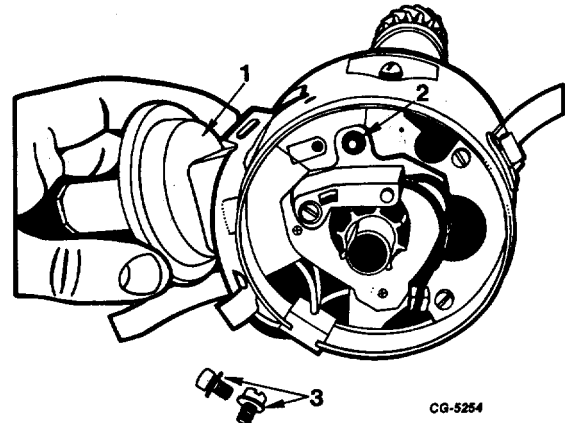

Fig. 13 Removing Vacuum Advance Diaphragm Assembly.
3. Remove vacuum advance diaphragm mounting screws and remove diaphragm assembly from distributor housing (Figure 13). Remove felt washer from diaphragm rod pin on sensor advance plate. (Figure 13).